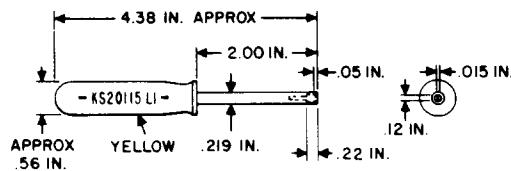

Fig. 17—KS-20115, L1, Adjuster
2.17 KS-20114, L1 and L2: The KS-20114, L1 and L2, adjusters (Fig. 17) are used on the 3-type FM terminals in the TD-3 and TH-3 Microwave Radio System.
2.18 KS-20115, L1: The KS-20115, L1, adjuster (Fig. 17) is for use in adjusting the 3-type FM terminals with the J68383J test sets.